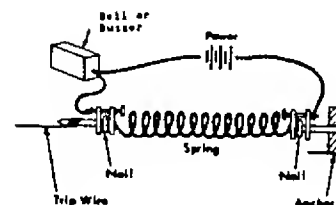

Figure 385 Tension Release Device Booby Trap
5. A "Tension Release Device" can be made by stretching a coil spring and attaching a nail with an electric lead to each end. The nails must be insulated from the spring. Release of the spring will bring the nails together completing the circuit between the buzzer and battery. See Figure 385.